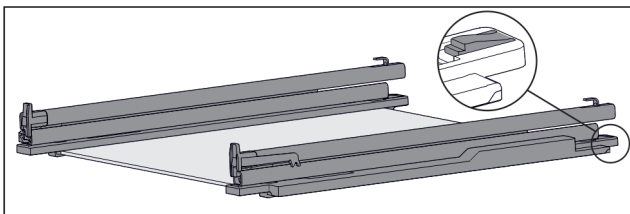

Fig. 107 Glass shelf with rails and retaining parts
- Press down retaining part at the rear (see Fig. 107) and simultaneously push rail back.